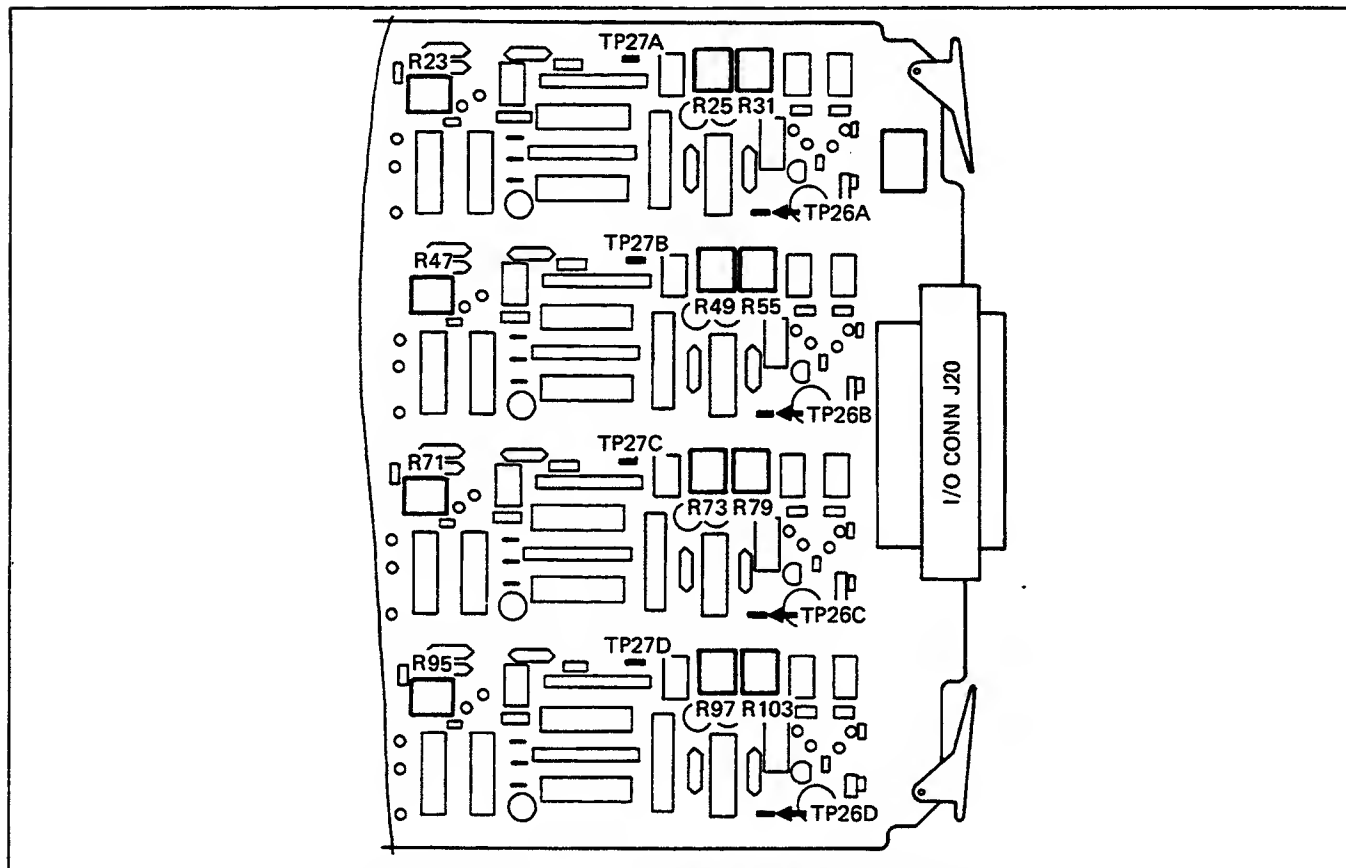

Figure 011-7. Calibration Potentiometers and Test Points
5. Connect the digital multimeter (DMM) input leads to the appropriate ZERO test points listed in Table 011-2 for the channel being calibrated (refer to Figure 011-7 for calibration potentiometers and test points). Adjust the corresponding ZERO potentiometer for a DMM indication of $0.00 \text{ mV} \pm 0.05 \text{ mV}$.